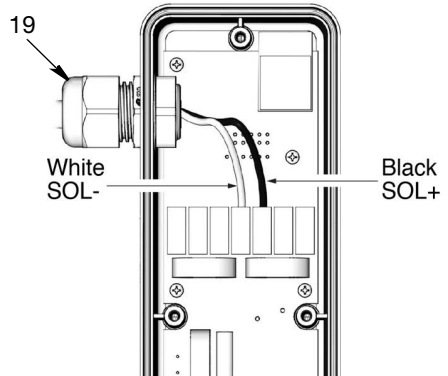

FIG. 35
5. Inside PAC electronics enclosure (2), disconnect neutral (white) and line (black) wires from SOL - (white) and SOL + (black) from the terminal block (FIG. 35).
6. Loosen cord grip (19) and completely remove cable (FIG. 35).